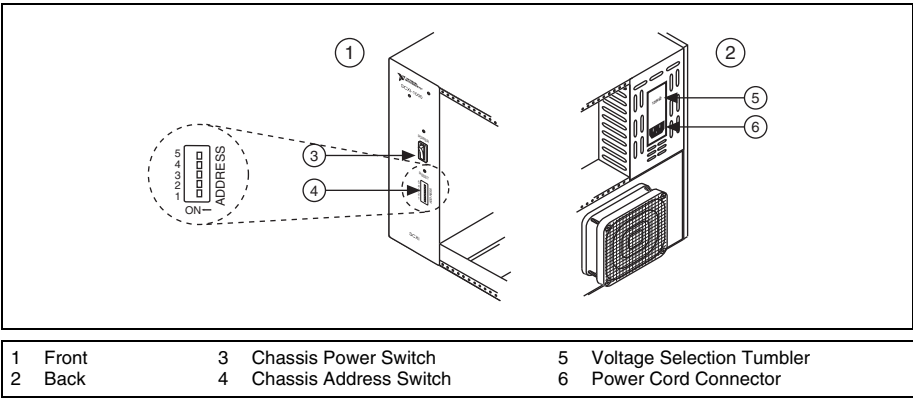

Figure 3. SCXI Chassis Setup
- If the chassis has address switches, you can set the chassis to a desired address. When configuring the chassis in MAX in Step 12, make sure the software address settings match the hardware address settings. All switches are shown in the off position, the default setting, in Figure 3.